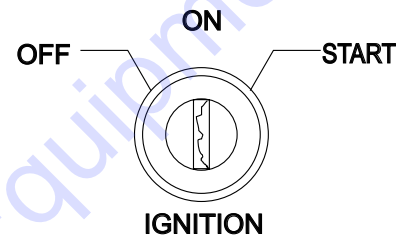

Figure 23. Ignition Switch
5. To start the engine, insert the ignition key (Figure 23) into the ignition switch and turn the key to the **ON** position.